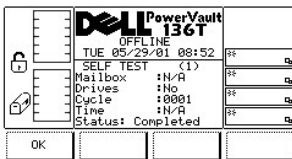

Figure 115. Service > Library > Exercise > Self test > Self Test Execution Dialog
- 1 If the button beneath the **OK** softkey is pressed, the field values are applied and the Self Test operation is started. See Figure 115.
Once the cycles have run, the test displays the results. See Figure 115.